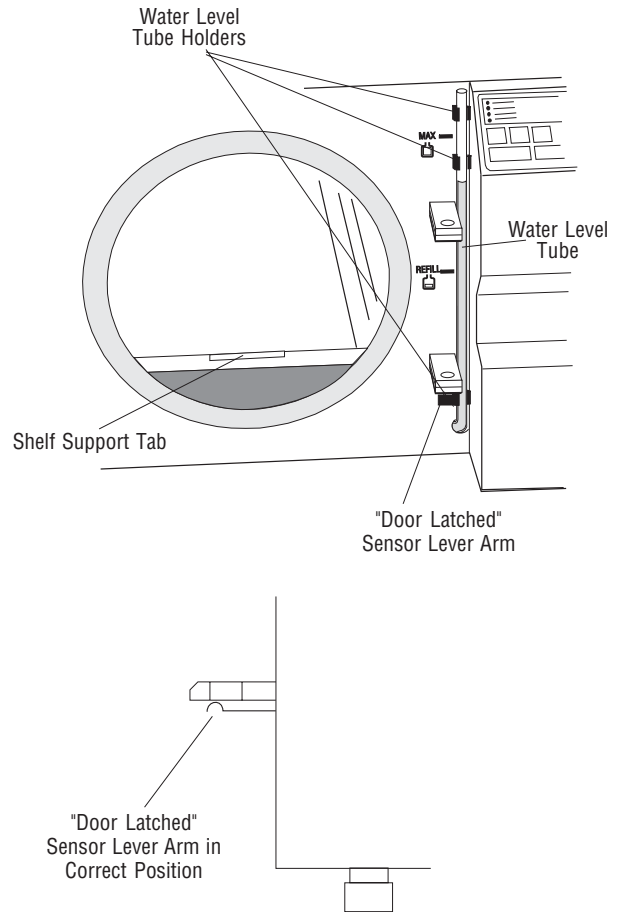
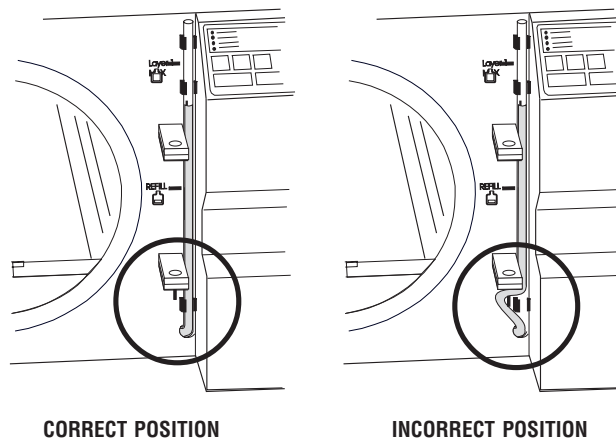

**Figure 3-7**
**Figure 3-8**
4. Verify that the water level tube is in an upright position and secure in its holders (Figure 3-7 and Figure 3-8). Make sure that water level tube is not contacting or interfering with the "Door Latched" sensor lever arm.
5. Replace bottom shelf and make sure the front edge of the shelf is inserted into tab for shelf support (see Figure 3-7). Close and lock the chamber door (push handle in and slide downward).